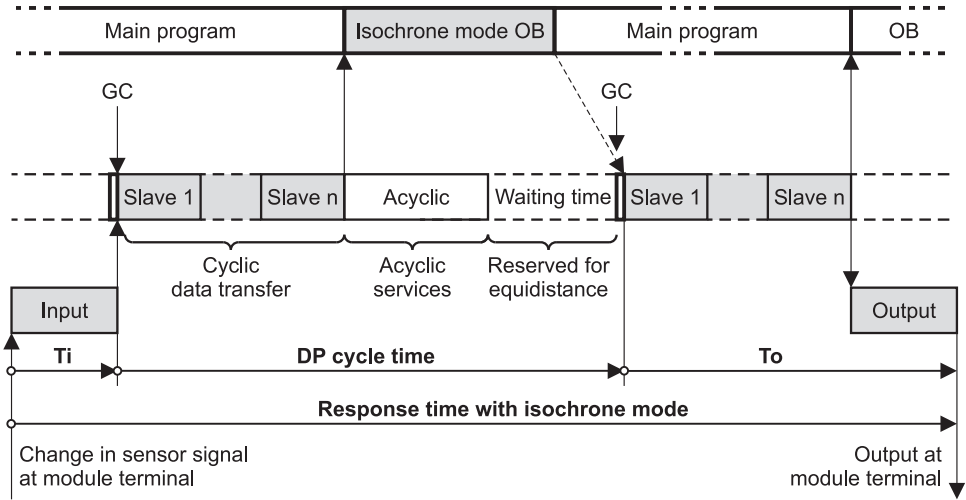

Figure 20.14 Response time with isochronous mode and constant bus cycle time
Figure 20.14 shows the times involved in the isochronous mode. T_i is the time required for reading in the process values. It contains the execution time in the input modules or electronic modules and, in the case of modular DP slaves, the transfer time on the backplane bus. At the end of T_i , the input information for transfer using the global control command (GC) is available. Then the equidistance time begins. It is the time between two global control commands and encompasses the transfer to the subnet as well as the execution of the isochronous interrupt OB. Between completion of the execution of this OB to the next global control command there must be time for execution of the main program.